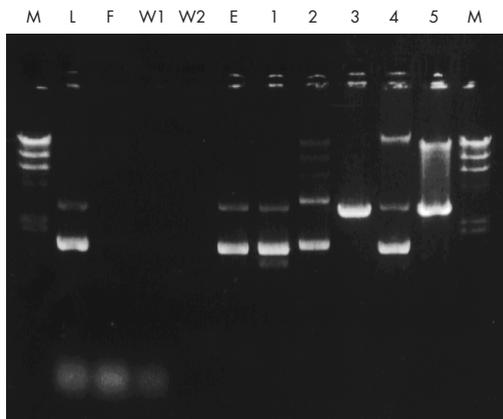

Figure 3. Agarose gel analysis of the plasmid purification procedure.
- a) Dimer form of plasmid Dimers or multimers of supercoiled plasmid DNA are formed during replication of plasmid DNA. Typically, when purified plasmid DNA is electrophoresed, both the supercoiled monomer and dimer form of the plasmid are detected upon ethidium bromide staining of the gel (see Figure 3, page 35). The ratio of these forms is often host dependent.
- b) Plasmid has formed denatured supercoils This species runs faster than closed circular DNA on a gel and is resistant to restriction digestion (see Figure 3, page 35). Do not incubate cells for longer than 5 min in Buffer P2. Mix immediately after addition of Buffer P3.
Run 2 μ l of each sample on a 1% agarose gel* for analysis of the fractions at each stage of the plasmid purification procedure. Figure 3 shows an analytical gel of the different fractions, together with examples of problems that can arise at each step. If you find that you have a problem with a particular step of the protocol, turn to the hints in the relevant section of the troubleshooting guide starting on page 26. If the problem remains unresolved, or if you have any further questions, please call QIAGEN Technical Service.